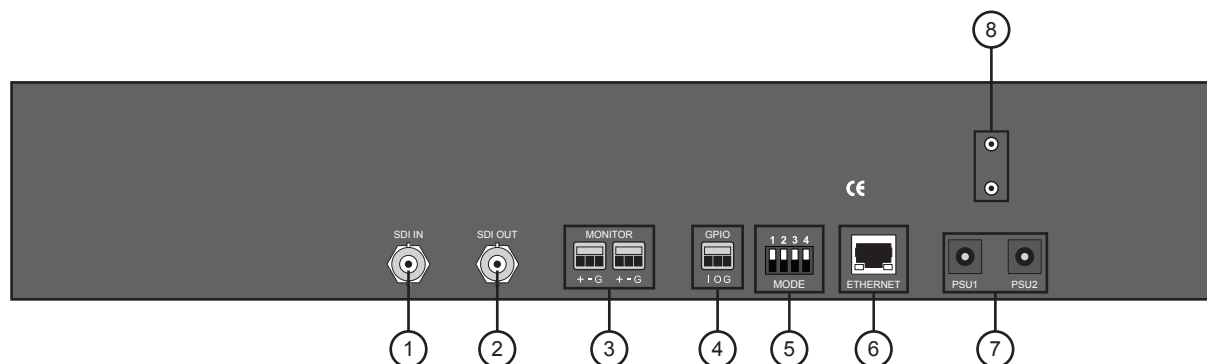

Figure 2.2 MB-652 — Rear Panel
2. Connect the DC plug to the power jack located on the rear panel of the MB-652. Refer to **Figure 2.2** for power connection location.